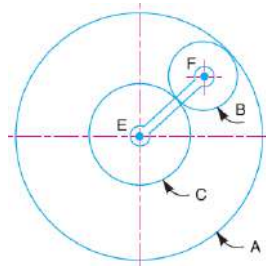

Figure: 1
10. An epicyclic gear consists of three gears A, B and C as shown in the figure 1. The Gear A has 72 internal teeth and gear C has 32 external teeth. The gear B meshes with both A and C and is carried on an arm EF which rotates about the centre of A at 18 r.p.m. If the gear A is fixed. Determine the speed of gears B and C.